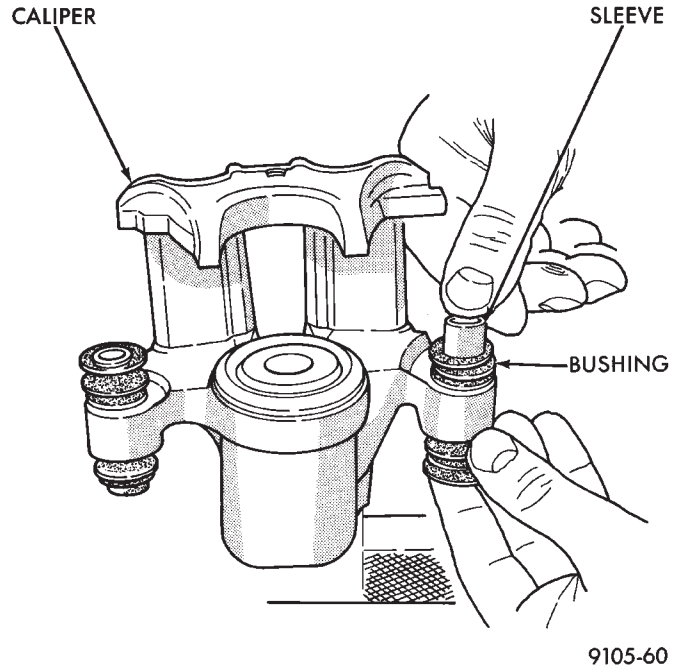
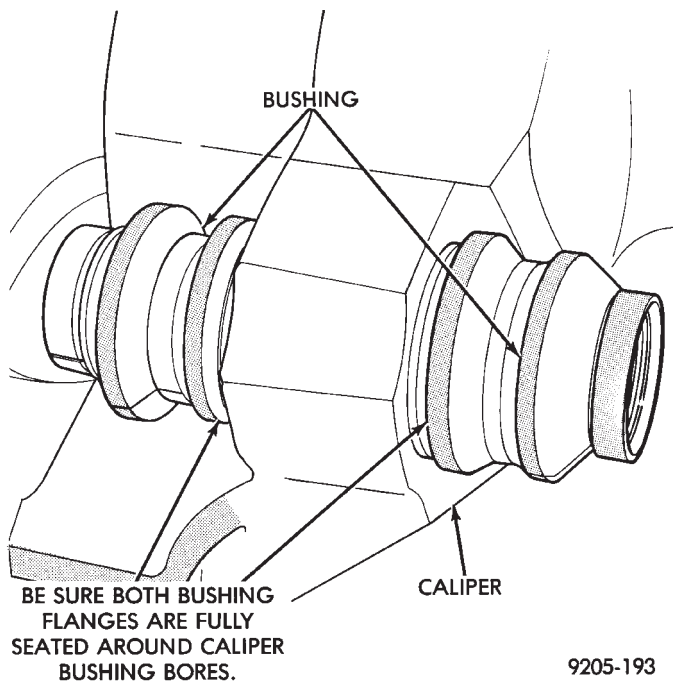

Fig. 180 Installing Sleeve In Bushing
Fig. 179 Bushing Correctly Installed In Caliper CALIPER PISTON AND SEALS
(3) Unfold the bushing using your fingers or a wooden dowel until the bushing is fully seated into the caliper housing. The bushing flanges should be seated evenly on both sides of the bushing hole (Fig. 179).
(4) Lubricate the inside surfaces of the bushing using Mopar Dielectric Grease or an equivalent.
(5) Install the guide pin sleeve into one end of bushing until the seal area of bushing is past the seal groove in the sleeve (Fig. 180).
(6) Holding the convoluted boot on the opposite end of the bushing, push the steel sleeve through the
bushing until the bushing boot is fully seated into the seal groove on that end of sleeve (Fig. 180). Install the other end bushing boot into the groove on that end of the bushing sleeve.